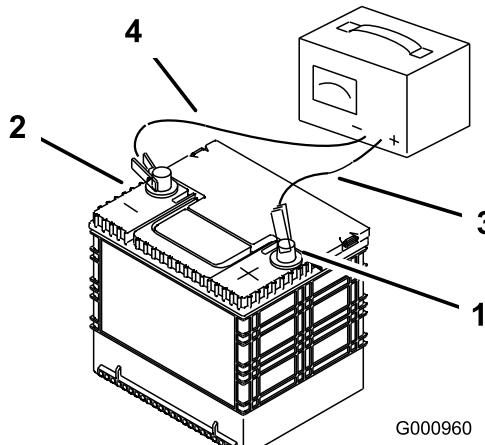

Figure 24
2. When the battery is fully charged, unplug the charger from the electrical outlet, and disconnect the charger leads from the battery posts (Figure 24).